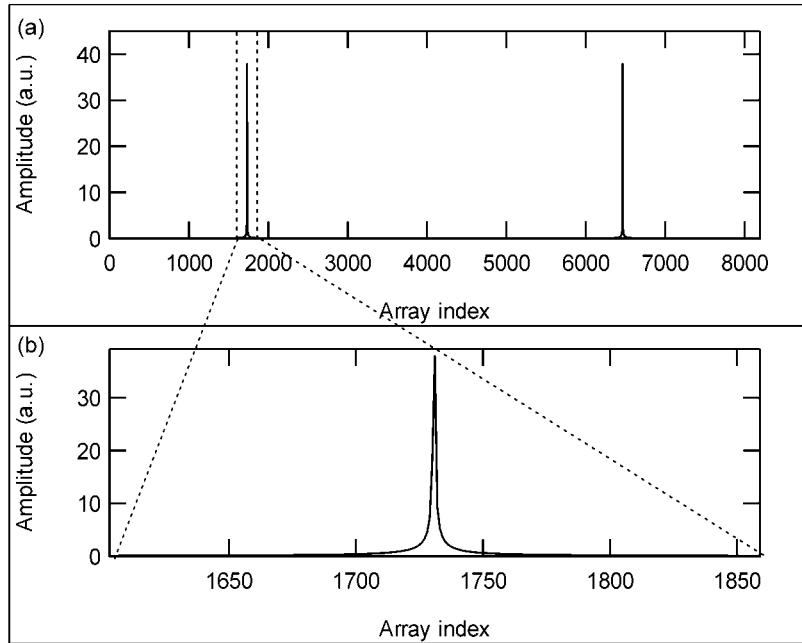

Figure 7-17. (a) The Fourier transform of interference fringes.
The Fourier transform of reflected optical intensity (I) for a short length of single-mode fiber as the DUT is plotted in Figure 7-17 (a). Figure 7-17 (b) shows the